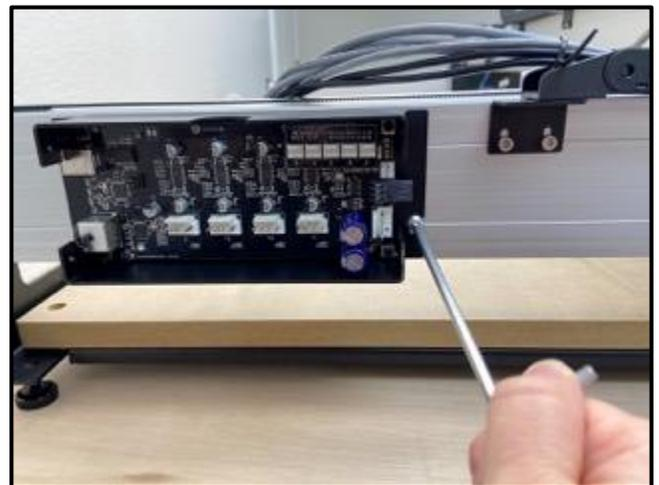

Figure 8-6
1. Position the controller unit with the USB and power ports facing the **REAR** of the machine. See *Figure 8-6*.
2. Use the 4mm hex key and the two (2) M6x12mm button head cap screws to mount the controller unit to the outside of the Y1-rail. See *Figure 8-6*.